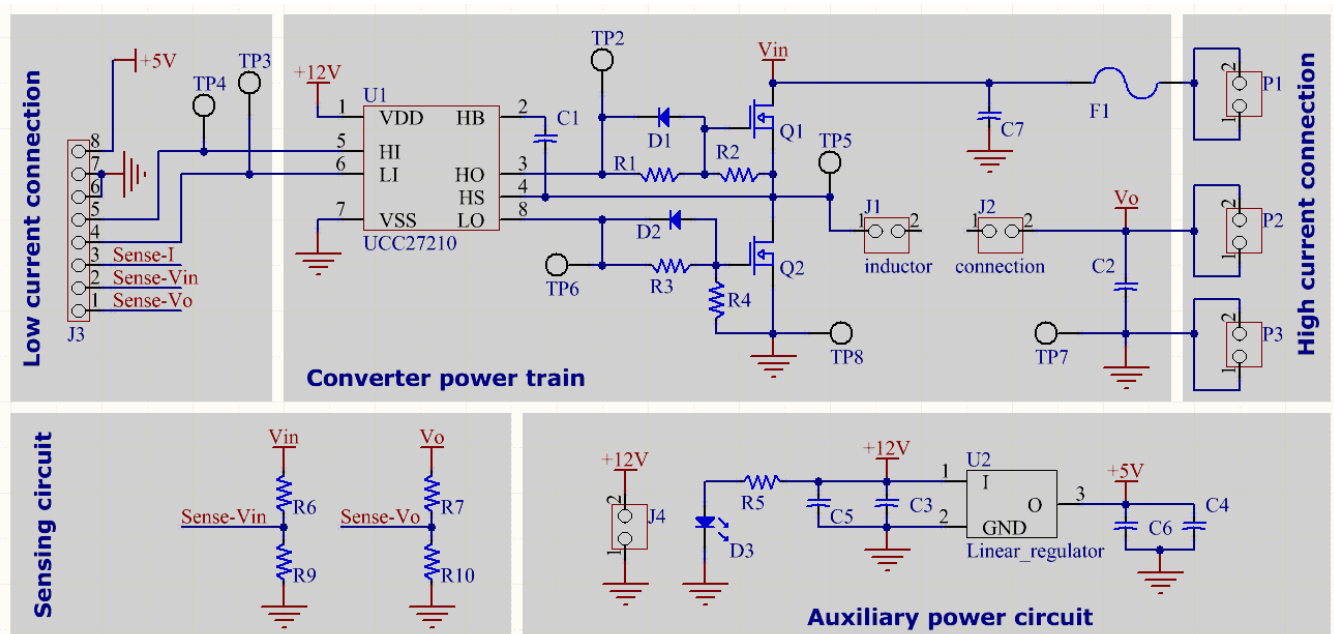

Figure 1 Circuit schematics
The schematic of the buck converter is shown Figure 1. The PCB board has been fabricated to be used directly. The connection is described as:
- 3) According to the converter schematics, as shown in Figure 1, identify the board connection of V_{in+} , V_{in-} , V_{o+} , and V_{o-} .
- 4) According to the converter schematics, as shown in Figure 1, identify the board connection of the auxiliary power supply for the 12V DC.
- 5) According to the converter schematics, as shown in Figure 1, identify the board connection of the interlinking inductor.
- 6) According to the converter schematics, as shown in Figure 1, identify the location and meaning of the test point.
- 7) According to the converter schematics, as shown in Figure 1, identify the location and meaning of the control signals.